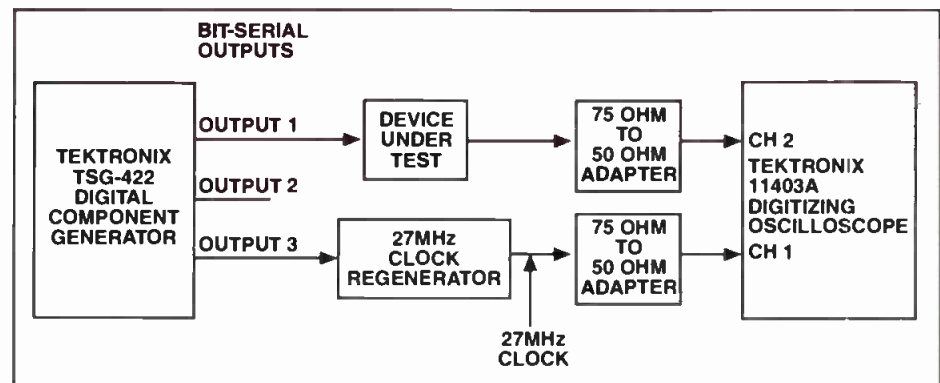

Figure 6. Test setup for measuring six selected parameters using an oscilloscope such as a Tektronix 11403.
• *The jitter-free reference method:* Measuring jitter with respect to a stable, synchronous, reference signal is a more precise measurement method. It requires a stable and synchronous reference signal that is readily available in a lab environment. Figure 6 shows a test setup used by the author and featuring a wideband digitizing oscilloscope. The signal generator feeds the input of the device under test (DUT). The oscilloscope is triggered by a 27MHz clock derived from the bit-serial 270Mb/s output of the test generator. This allows for unambiguous synchronization of the oscilloscope. The accuracy of the measurement depends on the oscilloscope time-base stability and the stability of the clock. These are constant parameters and, consequently, their effect on the mea-